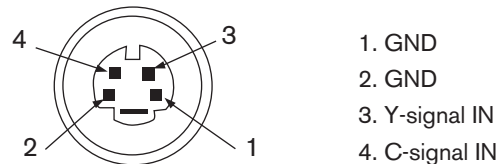

Figure 3: Y/C Connection Pinout
There is one (1) mini-DIN type connector for the S-video (Y/C) input (please see *Figure 2* on *Page 6* and *Figure 3* below).